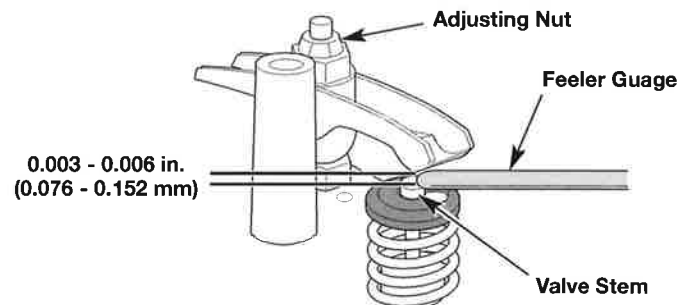

Fig. 21
8. Use a feeler gauge to measure the clearance between one of the valve stems and its corresponding rocker arm (Fig. 21). Repeat this process for the other valve stem and rocker arm. The recommended clearance is **0.003 – 0.006 in. (0.076 – 0.152 mm)**. Use a standard automotive **0.005 in. (0.127 mm)** feeler gauge. The feeler gauge should slide between the rocker arm and valve stem with a slight amount of resistance, without binding (Fig. 21).
- a. Turn the adjusting nut with a 5/16 inch (8 mm) wrench or nut driver (Fig. 21).